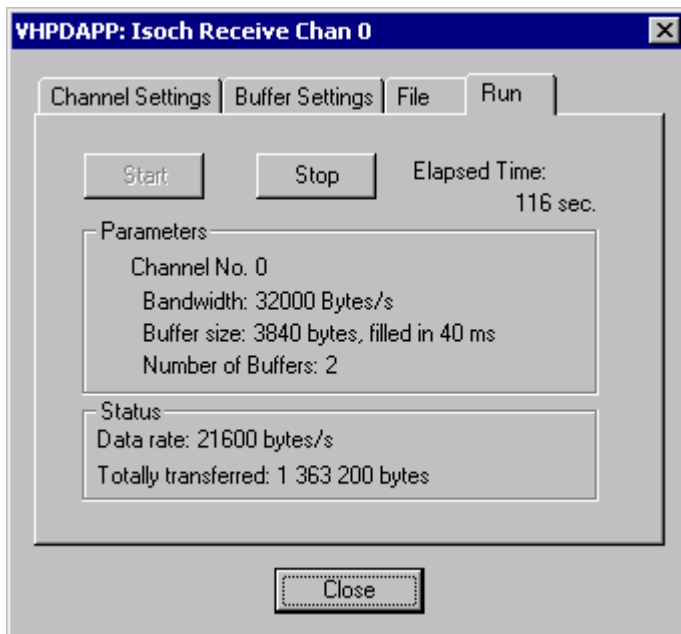

Figure 29: Receiving transmitted data (VHPD demo)
- the number of packets starts counting and VHPD demo displays receiver statistics as shown in Figure 29